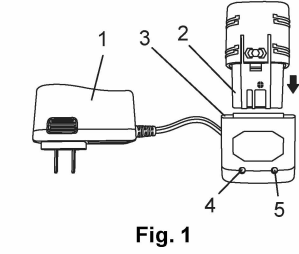

Fig. 1
1. To charge the battery, place the charger (1) in a dry location near a 120 V AC, 60 Hz electrical outlet (Fig. 1).
2. Plug the battery charger into the 120 V AC, 60 Hz wall receptacle. The green LED (4) will turn ON.
3. Place the battery stem (2) into the matching cavity (3) in the top of the charging base.